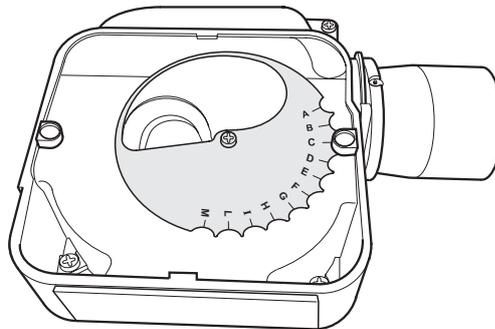

Fig. 5 - Burner air adjuster disc (shown set to position 'C')
5. The secondary air shutter disc is factory set in position 'C' – i.e. with the cut-out marked C located against the die-cast boss on the fan housing - suitable for outputs of 18.3 and 21 kW only. See Fig 5.